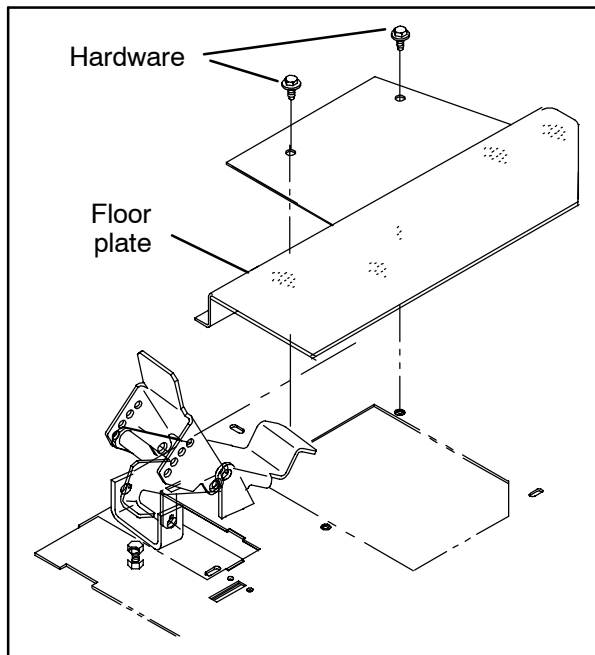

FIG. 8
19. Remove the floor plate from the operator compartment. Set the floor plate and hardware aside Refer to Fig. 8.
28. Reinstall the floor plate into the operator compartment. Refer to Fig. 8.